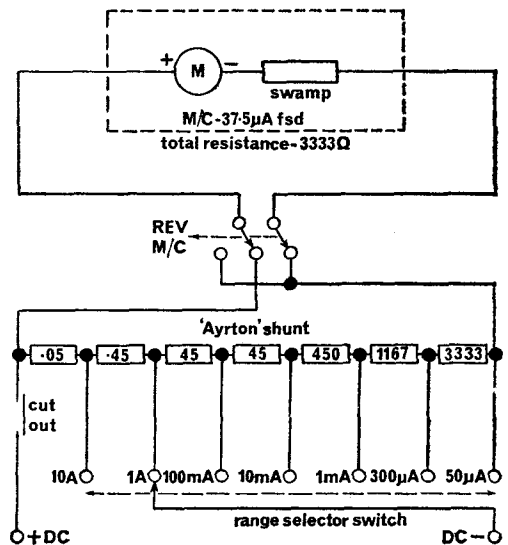

Fig. 1. Simplified amps circuit CT498
3. **Direct current.** Figure 1 shows the circuit diagram of the ammeter section of a typical multimeter. The full-scale sensitivity of the movement is $37.5 \mu\text{A}$. The shunt used is a tapped type called an Ayrton shunt. The current flow through the instrument takes two paths, one direct through the shunt resistors to the left of the tapping selected by the switch, and the other to the right through the remaining resistors and the meter movement. The total shunt resistance is such that it passes $12.5 \mu\text{A}$ with $37.5 \mu\text{A}$ passing through the meter, giving a practical sensitivity of $50 \mu\text{A}$. As the selector switch is moved towards the higher current ranges, the resistance of the shunt portion decreases, so bypassing an increasing and proportionate amount of current away from the meter movement. Theoretically, an ammeter should have an internal resistance of zero ohms so that its insertion in a series circuit does not affect the current flow. With a practical multimeter some 'loading' occurs.